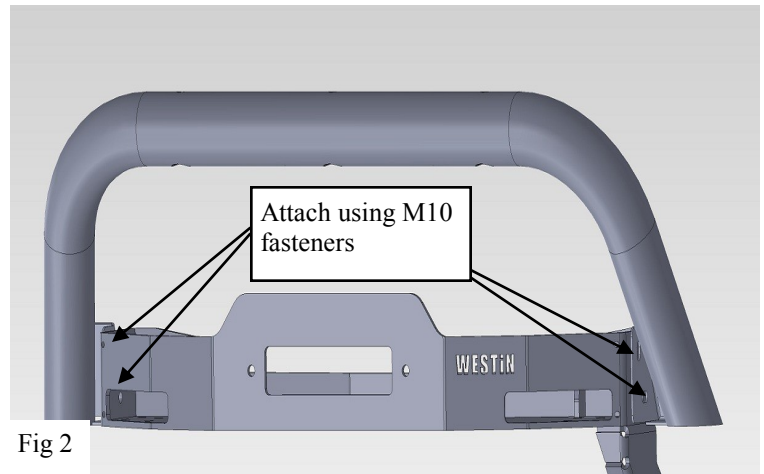

Fig 2
3. With assistance align the bull bar/ light bar up to the mounting holes and attach the bull bar to the winch tray using (4) M10 button head bolts, (8) M10 flat washers, (4) M10 lock washers, and (4) M10 hex nuts. NOTE: The hex key included in the kit must be used to tighten the M10 Button head bolts. The bull bar/ light bar may be adjusted to desired rake (Fig 2)
4. Once the bull bar is installed up to 3 accessory lights may be installed, the wires may be ran through the bull bar/light bar and out the bottom. Use the (3) wire grommets to seal the space around the wires.